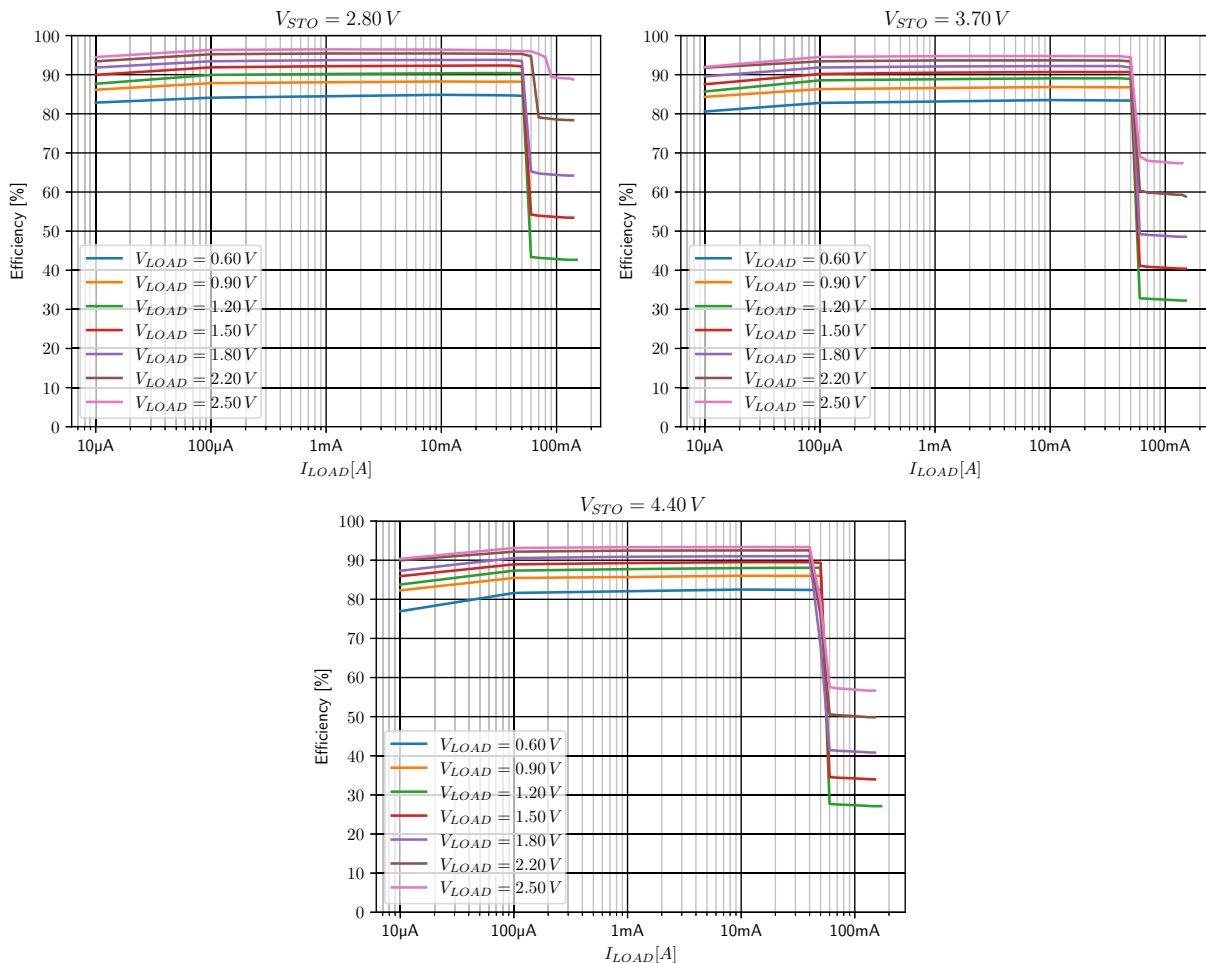

Figure 8: Buck (LOAD) converter efficiency with $L_{BUCK} = 10 \mu$ H (TDK VLS252012CX-100M-1), $T_{MULT} = x2$
- Optional: a device able to act as an I²C master and send I²C commands to the AEM13920. Only useful when testing settings that are not accessible through the configuration pins, such as buck timings. Please note that the results shown on Figure 8 are with buck timing x2, that is the default value when not configuring the AEM13920 through the I²C registers. If using the I²C bus, the default value of the BUCKCFG register is 0x03 (timing x4).